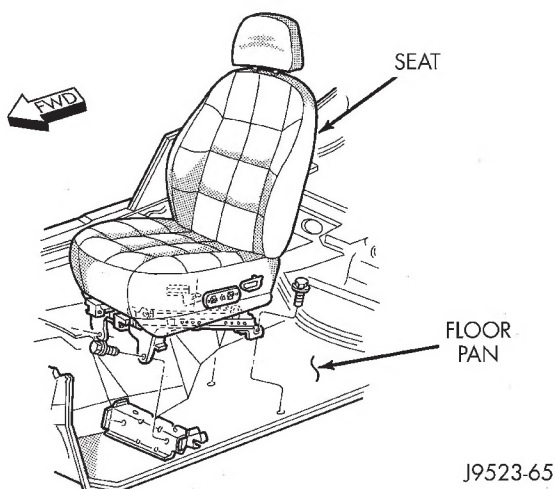

Fig. 3 Power Seat Adjuster Remove/Install
- (1) Disconnect battery negative cable.
- (2) Remove 4 bolts securing seat adjuster to floor (Fig. 3).